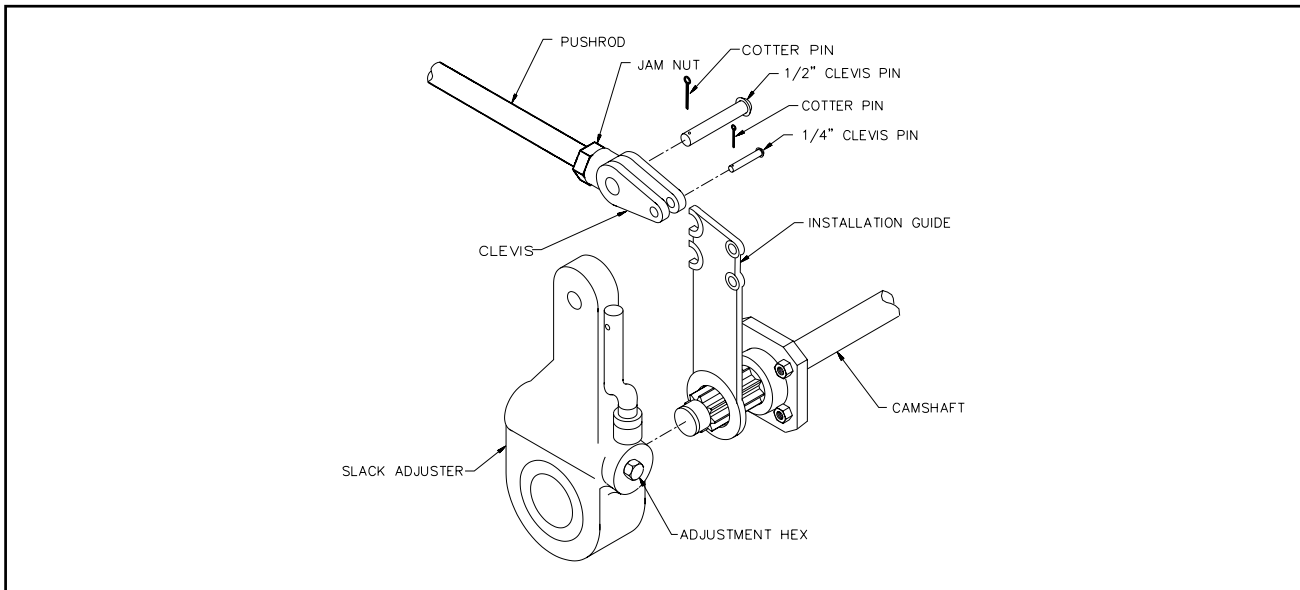

Figure 4-10 Slack Adjuster
4. Disconnect the slack adjuster from the connecting rod by removing the clevis pin (**See Figure 4-10**).
4. Remount the brake chamber on the axle brackets and reconnect the air service hoses and the slack adjuster connecting rod (**See Figure 4-10**).
a. Operational Check (See Figure 4-10)
b. Replacing Slack Adjuster (See Figure 4-10)